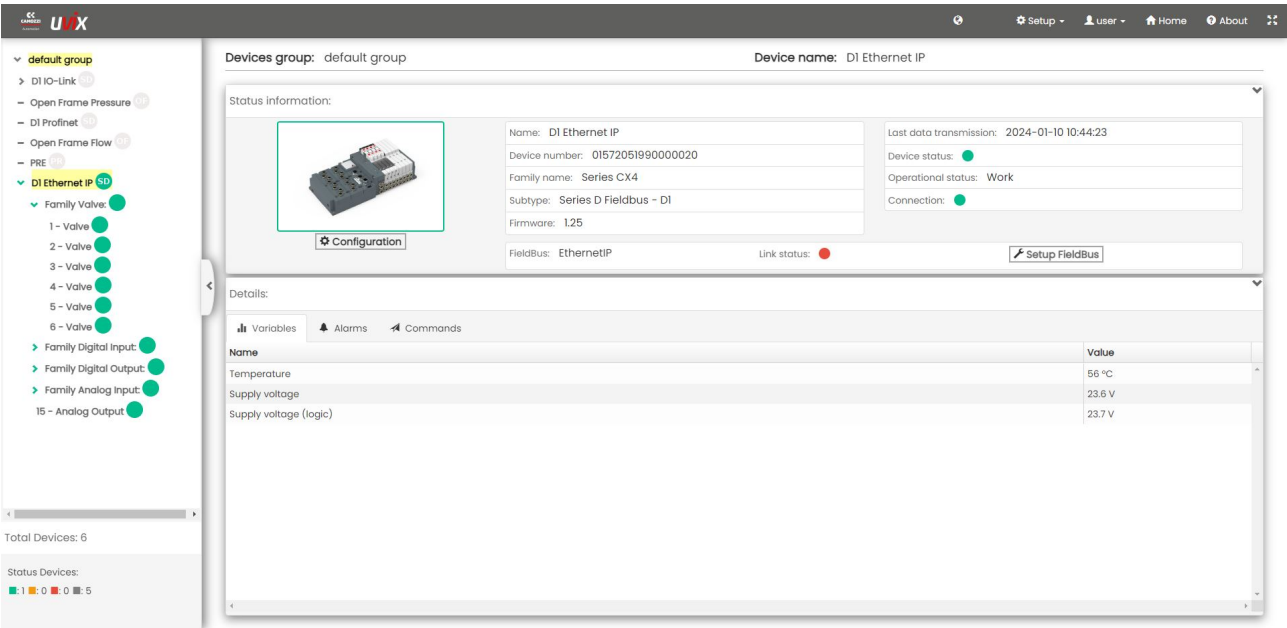

Figure 6.36: Variables window
- Variables: Displays the variables sent by the device (Figure 6.36).